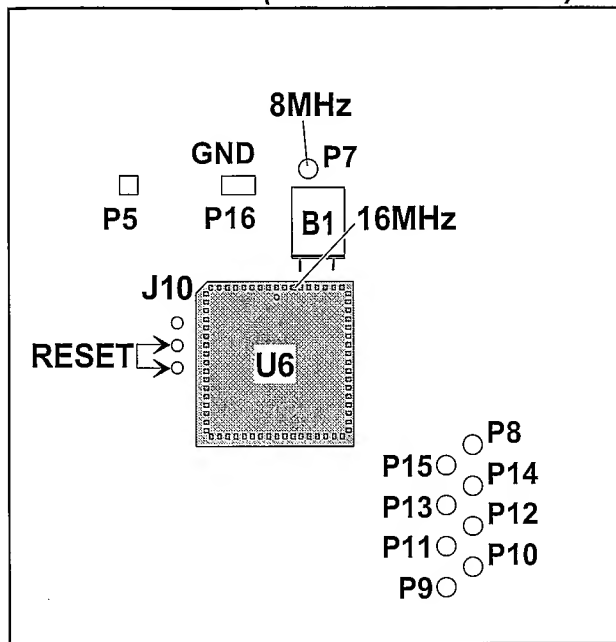

Figure 5-10 Test points and jumpers for testing the microcontroller.
- Check that 16 MHz is present at U6 pin 67, see Figure 5-10.
- Check the output signals from the μ C, U6, see Figure 5-10. Use test pin P5 to trigger the oscilloscope.